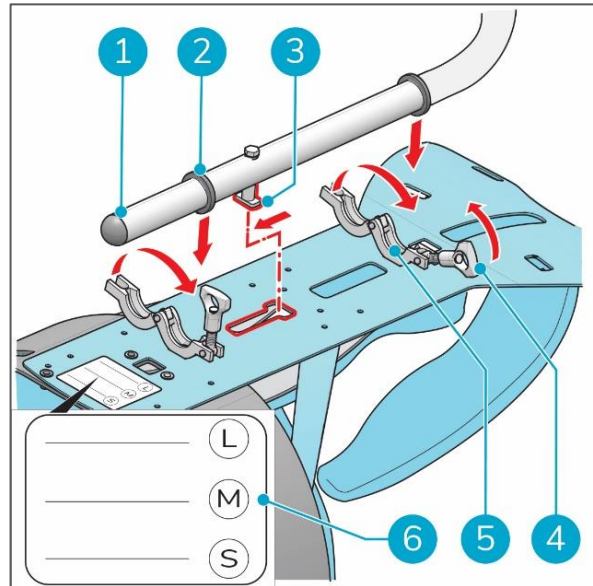

Figure 16
2. Place the power wash support tube (Figure 16, pos.1) in the opened mounting clamps (Figure 16, pos. 5), with the safety hook (Figure 16, pos. 3) in the opening in the harness.
3. Push the tube to the desired working height Large, Medium or Small (Figure 16, pos. 6).
4. Make sure to put the rubber rings (Figure 16, pos. 2) into the mounting clamps.